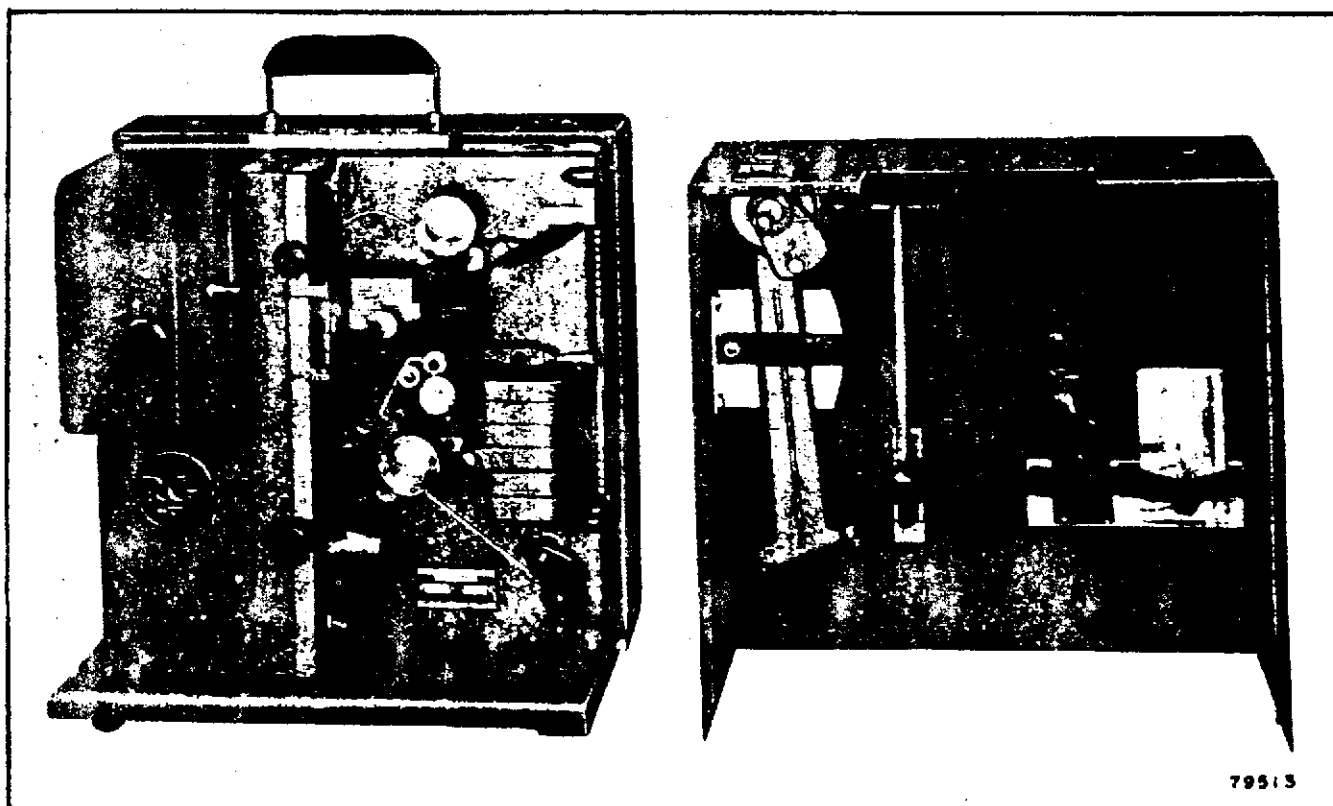

Figure 8 — View of Projector Packed Away
5. Remove the reels and the reel arms from the projector mechanism and replace the reel arms in the projector cover, see figure 8.